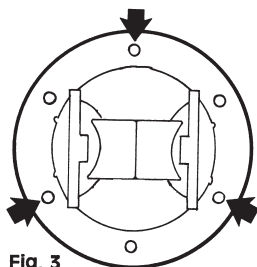

Fig. 3
4. Using the holes in the warning light's base, mark three (3) hole locations (Fig. 3), (it is best to use every other mounting hole in the base to insure the installation will be waterproof). Carefully lift the light from the mounting location and drill holes to size as shown on template.